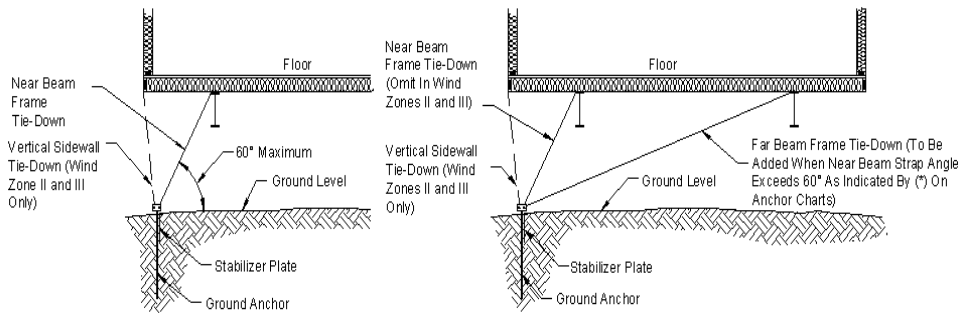

Figure 72. Lateral tie-down configurations
* Indicates a configuration that will require the frame strap connected to the far beam (see Figure 72).
There are two primary tie-down configurations: the near beam and the far beam methods. If the anchor spacing selected in the appropriate anchor table (**Table 22**, **Table 23** or **Table 24** has an asterisk (*) then use the far beam method. Otherwise, use the near beam method (**Figure 72**). Each method varies by wind zone as described below.